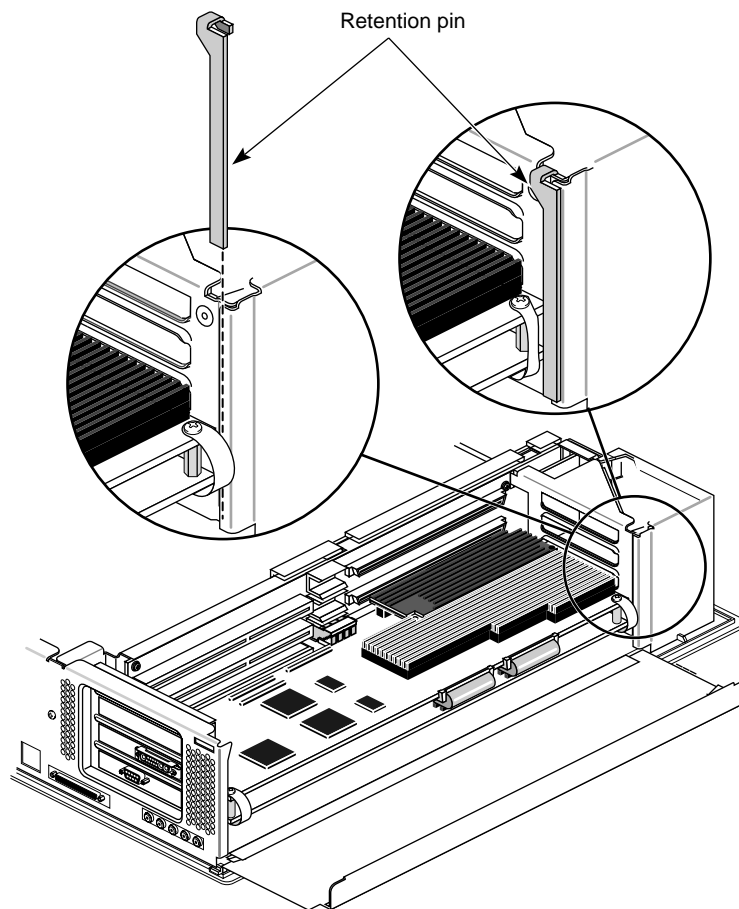

Figure 2-27 Hanging the Retention Pin
4. Hang the retention pin so that it sits in front of the board set, between the board set and the metal panel. The retention pin prevents the board set from moving away from the connectors (see Figure 2-27).